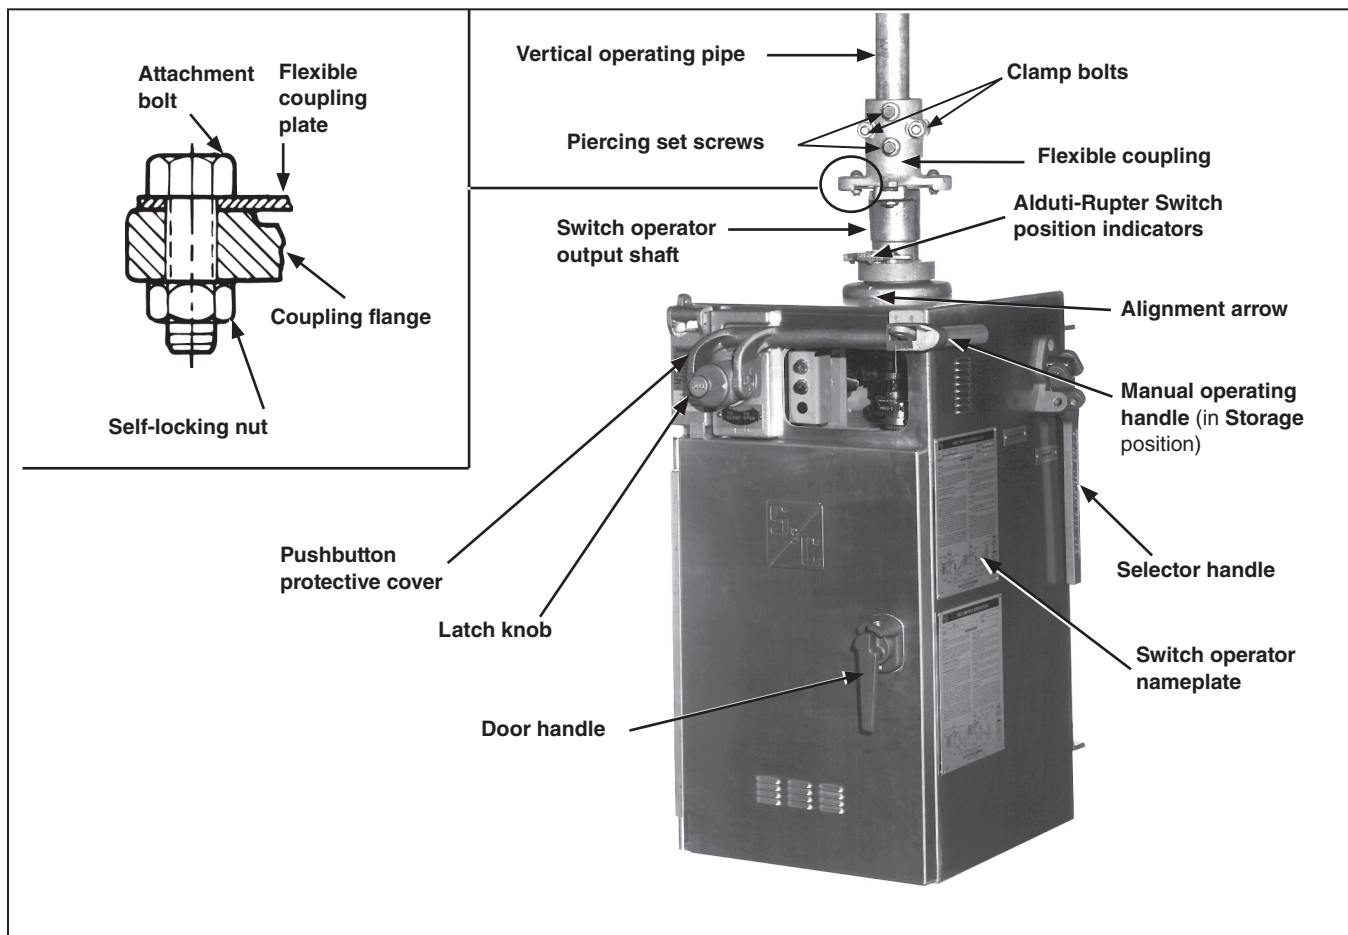
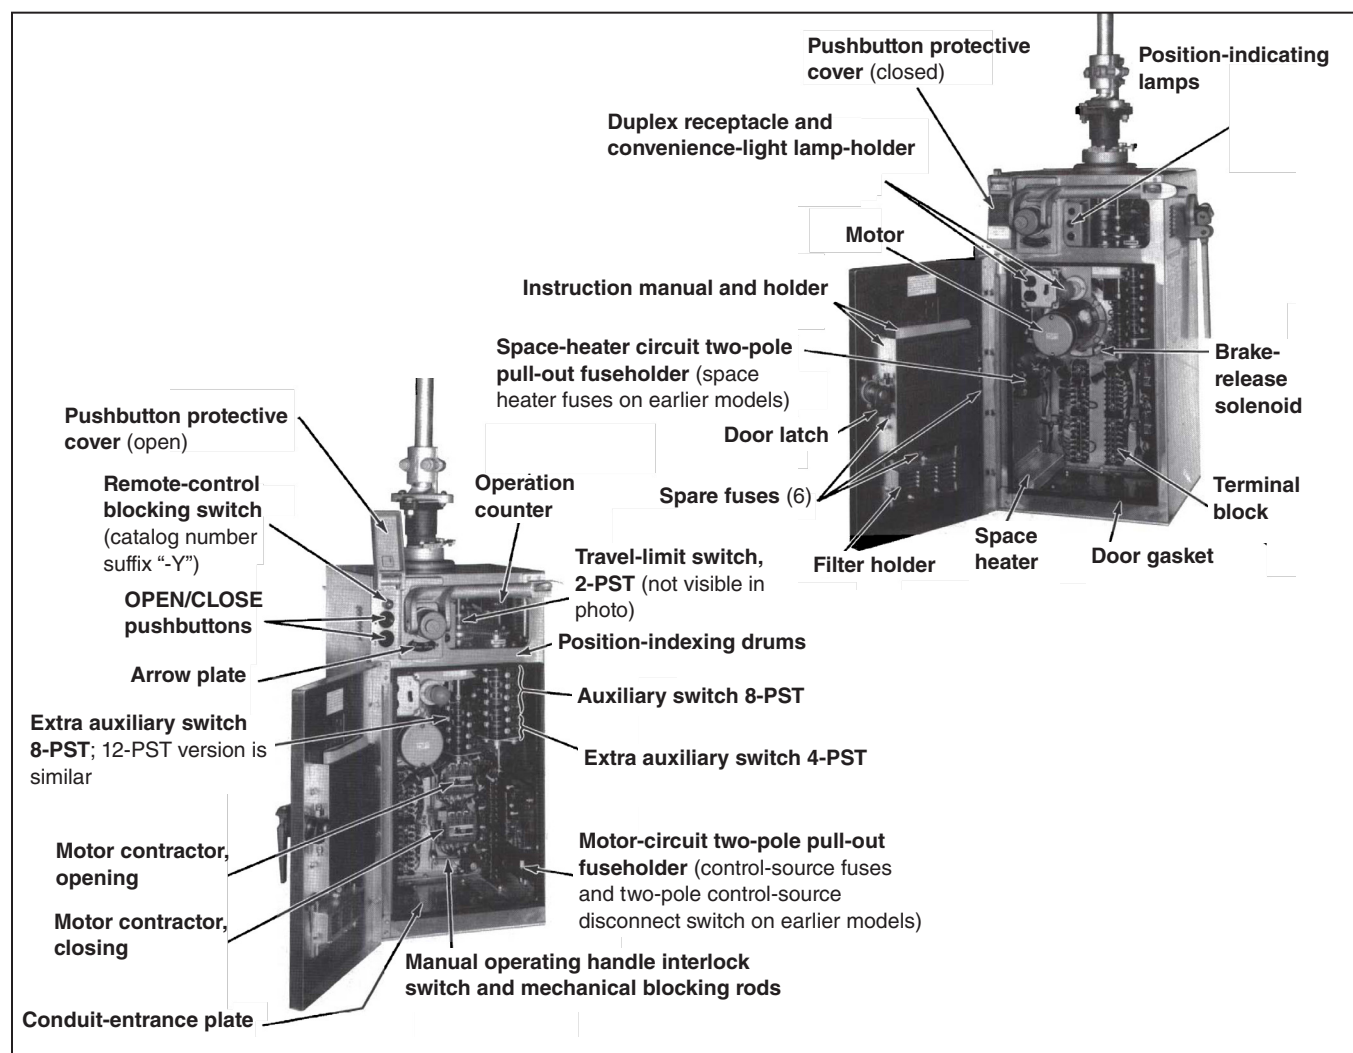
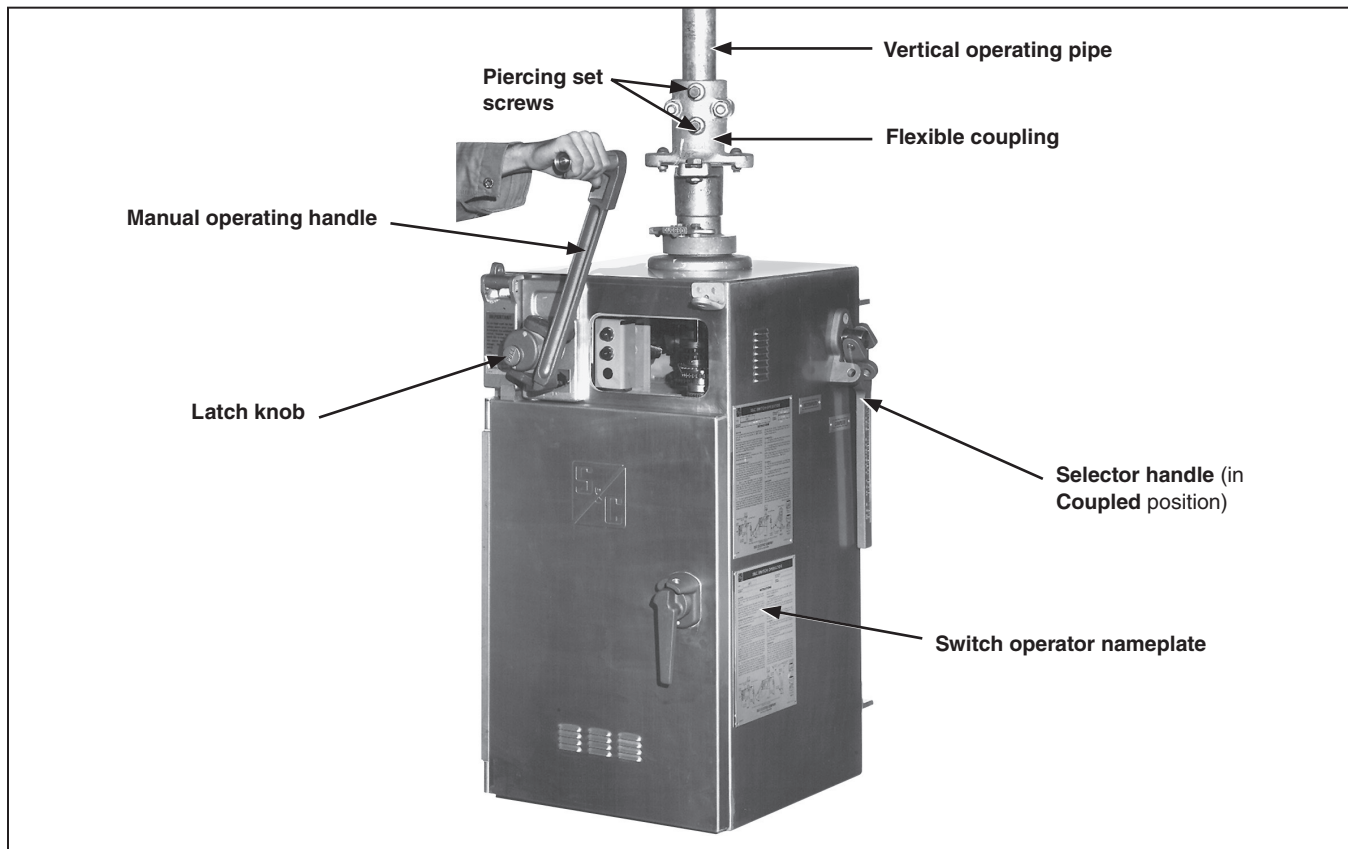

Figure 2. Exterior view of a switch operator.
Figure 3. Interior views of a switch operator.
Figure 4. Manual operation.
Become familiar with the parts of the switch operator as shown in Figure 2 on page 8, Figure 3 on page 9, and Figure 4 on page 10.
STEP 2. Attach the flexible coupling furnished for the vertical operating pipe to the switch operator output shaft. See Figure 2. Thread the attachment bolts through the flexible coupling plate and through the coupling flange on the output
- STEP 1.** Mark the conduit-entrance location for the control circuit wiring on the conduit-entrance plate in the bottom of the switch operator enclosure. See Figure 3.
To avoid accidental energizing of the operator after the external connections have been completed, remove the two-pole pull-out fuseholders for the motor circuit and space-heater circuit. See Figure 3. Reinsert the fuseholders only when indicated in the following steps.
STEP 2. Release the latch knob while continuing to pivot the handle forward to lock it into the **Cranking** position. See Figure 4.